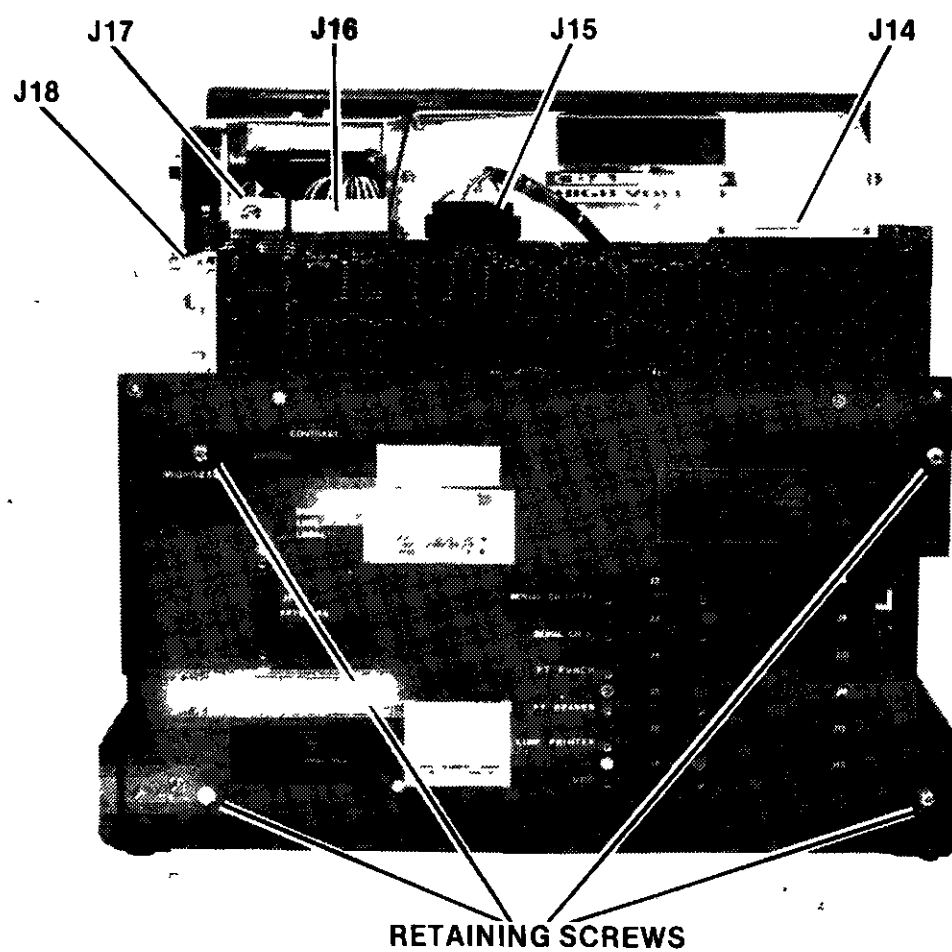

Figure 4-8. Model 22X/23X System Rear Panel
7. Refer to figure 4-8 and disconnect connectors J14 through J18 from mating connectors on top edge of IOC assembly. Remove the four rear panel retaining screws. Gently pull rear panel assembly slightly away from mainframe to access rear of connectors J8 and J9.